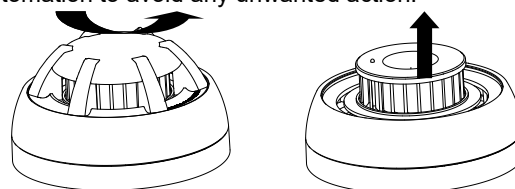

Figure 6 Removing the Sensing Chamber
- a) Open the top cover and pull the sensing chamber out. (Figure 6)